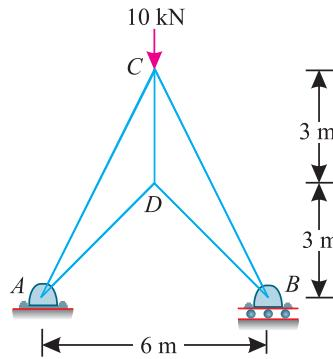

Fig. 14.15.
**Example 14.7.** A framed structure of 6 m span is carrying a central point load of 10 kN as shown in Fig 14.15.